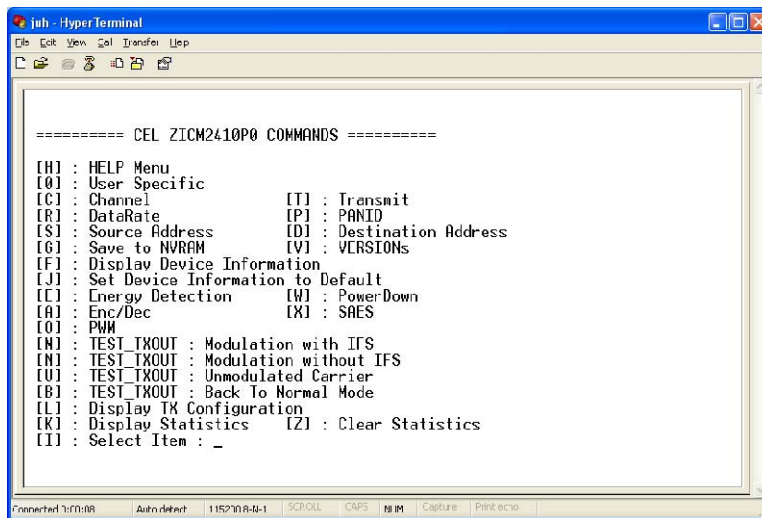

Figure 4 – Screen, HyperTerminal, CLI mode Menu
- 6) Press the **'RESETB'** button on the evaluation board. Within a few seconds the screen in Figure 4 will appear. (**Note:** typing **'H'** at almost any time will bring up this **'HELP Menu'**)